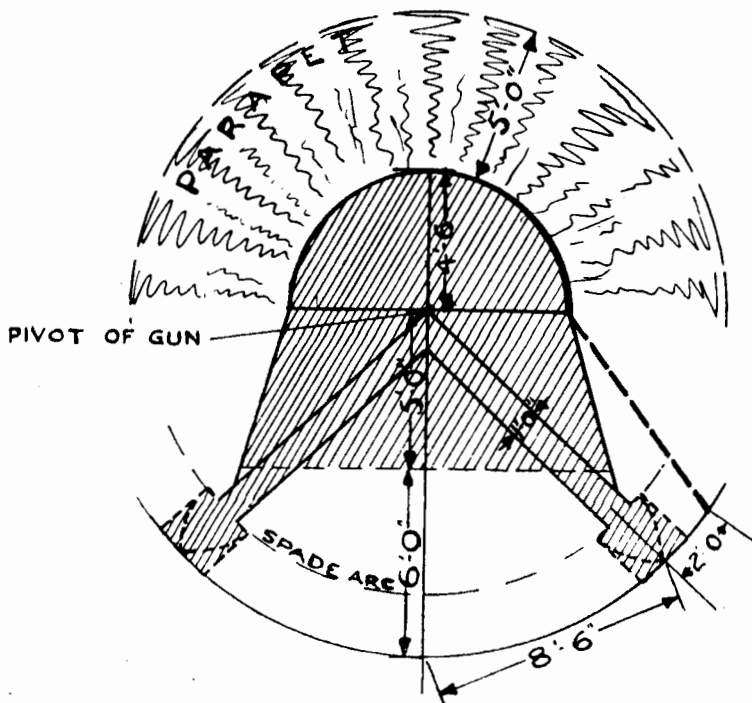

Fig. 32.—The gun pit
(2) The above figure (Fig. 32) shows a specimen gun pit, the dimensions of which must be known thoroughly by all detachments, although it must be borne in mind that each individual pit will vary considerably with the ground and the site selected for the gun.